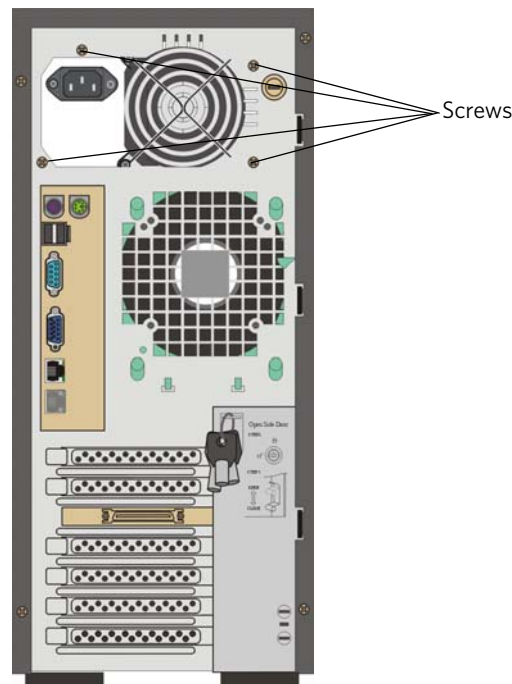

Figure 37: Removing the power supply unit
6. Remove the four screws that secure the power supply to the server from the rear of the server, using one hand to hold the power supply inside the server. See Figure 37 on page 122.